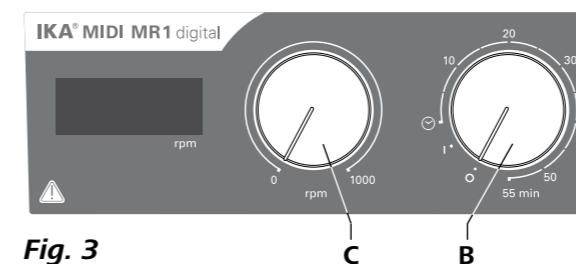

Fig. 3
- ☞ To switch the device on, turn the **"On/Off"** and **"Timer"** rotary knob (**B**, see Fig. 3) clockwise to the **"1"** position.
- ☞ Set the motor speed by turning the **"Speed"** rotary knob (**C**, see Fig. 3). The motor speed can be set to between 0 to 1000 rpm for **MIDI MR 1 digital** and 0 to 600 for **MAXI MR1 digital**.